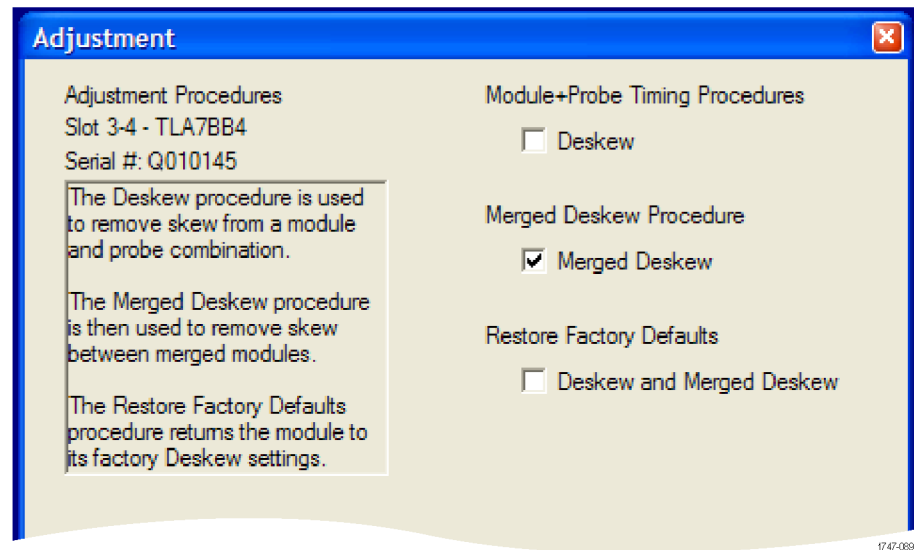

Figure 51: Adjustment procedure dialog box with Merged Deskew selected
3. Select Merged Deskew in the dialog box. (See Figure 51.)